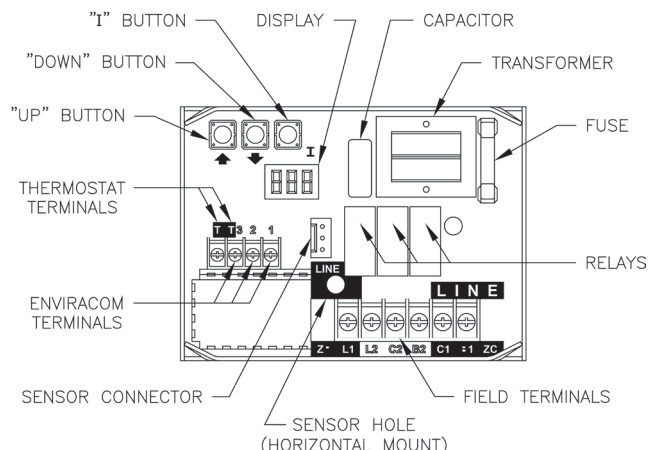

Figure 24: L7248/L7224 Circuit Board Layout - Horizontal Mount
4. **ADJUSTING AQUASTAT CONTROLLER SETTINGS.** To discourage unauthorized changing of Aquastat settings, a procedure to enter the **ADJUSTMENT** mode is required. To enter the **ADJUSTMENT** mode, press the **UP**, **DOWN**, and **I** buttons (refer to Figure 24) simultaneously for three seconds. Press the **I** button until the feature requiring adjustment is displayed: